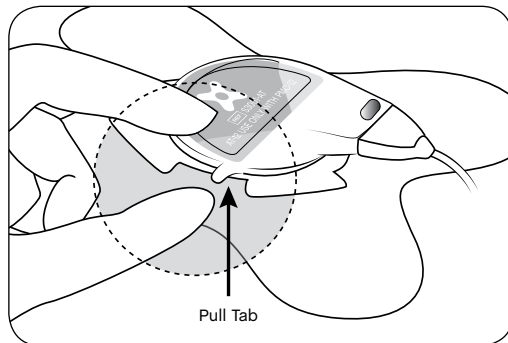

figure 12: Removing Applicator
- B. Remove the applicator from the **sam** Ultrasound Coupling Bandage by pulling the tab on the side of the gel cup. This unlocks the cup from the applicator (See Figure 12).